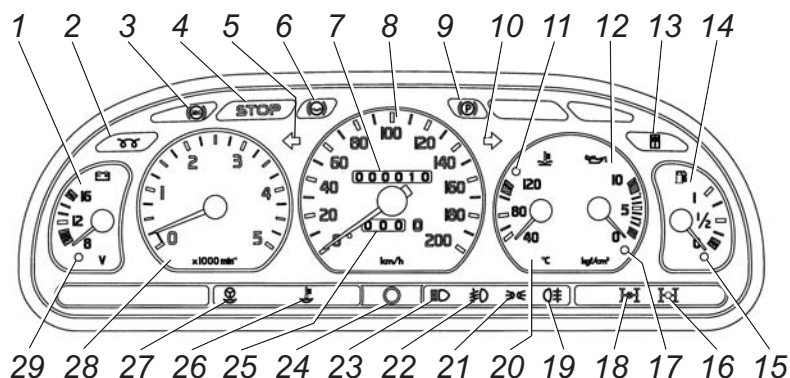

Fig. 4.14. Instrument cluster
**24. Parking brake lever.** For braking the vehicle pull the brake control lever up. If ignition is on warning lamp 9 (fig. 4.14) is flashing on the instrument cluster. For releasing the brake depress the grip knob. With the brake released the brake light goes out.
Positions of instruments on vehicles with ZMZ, GAZ-560, 5601, 5602 engines are given in fig. 4.14.